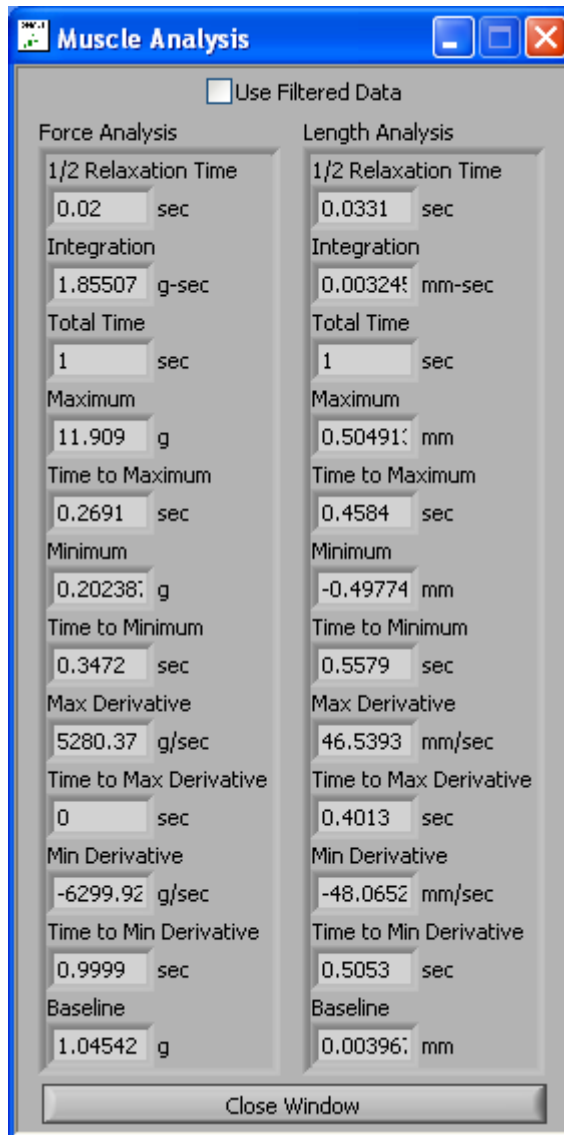

Figure 3: Muscle Analysis Window
- 9) The Muscle Analysis window shows various statistics about the displayed data, see Figure 3.